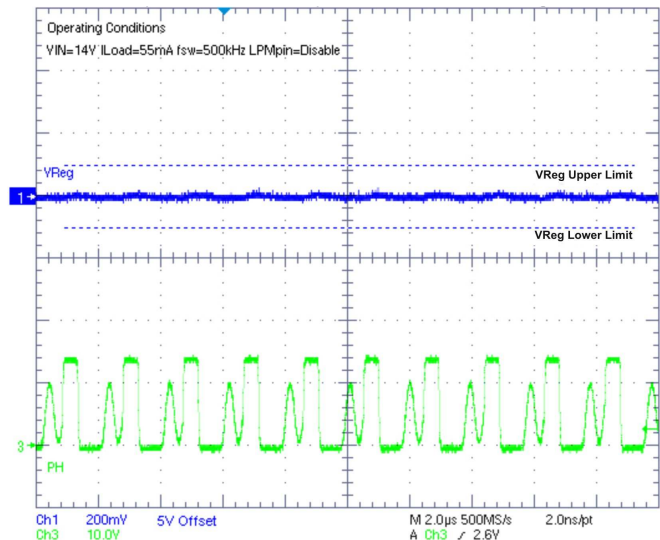
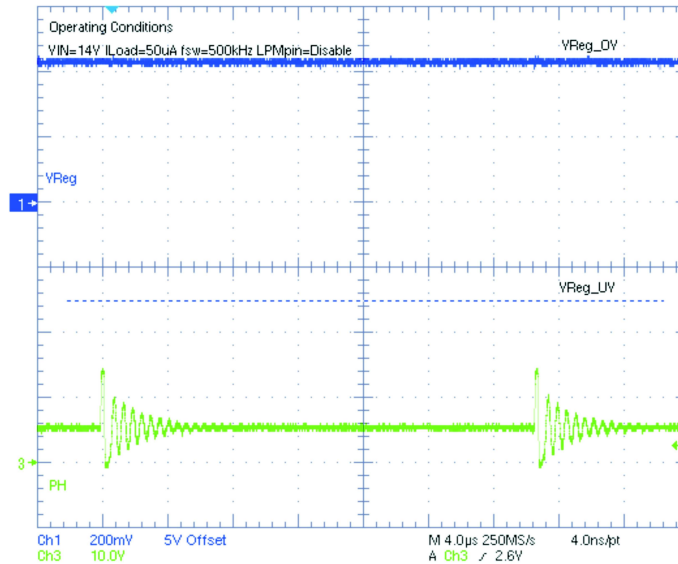

Figure 16. Active Mode DCM
Figure 19. PSM at Nominal VIN
The device enters in this mode of operation when LPM pin is set high (i.e disabled) and output loading is less than  $I_{L\_DISCONT}$ . This mode of operation is shown in Figure 16.
- At nominal input voltages during very light output loading. This mode of operation is shown in Figure 19. Comparing Figure 16 and Figure 19, in both cases the device is operating in discontinuous conduction mode; however, pulse skipping happens in Figure 19 because of very light output loading for similar input voltage. LPM pin must be set high (i.e., disabled) for this to happen.